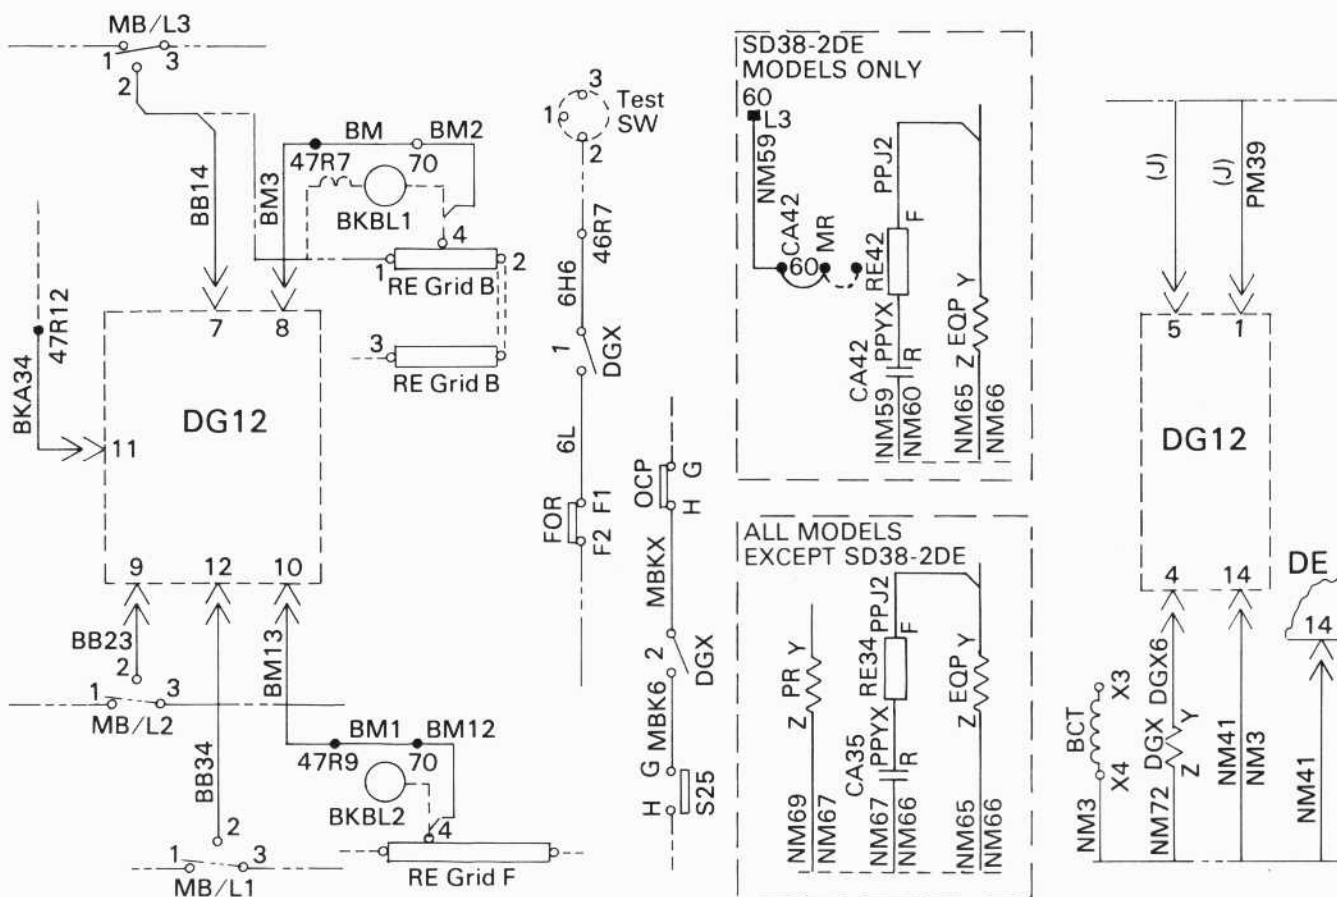

Fig.3 - Wiring Instructions For DG12 Application To SD-2 Locomotives With Extended Range Dynamic Brakes
1. Refer to Fig. 3 for modifying SD38-2DE, SD40-2DE, and SD45-2DE model locomotives.